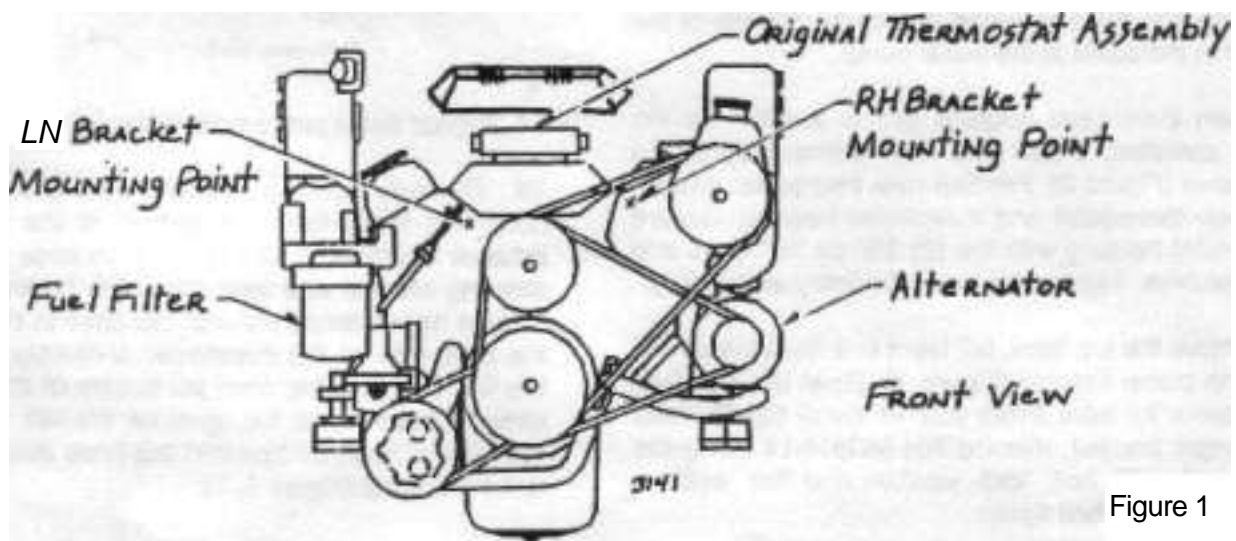

Figure 1
3. Locate original thermostat housing assembly at top, front, center of engine (Figure 1). Disconnect beige wire connected to the water temperature alarm sending unit on the left side and the beige/blue wire connected to the water temperature sending unit on the right side.
5. Remove thermostat housing assembly from engine by taking out the (2) 9/16" head bolts at back end of housing. Carefully remove plastic retainer and thermostat, water temperature alarm sender and water temperature sender from housing. Discard original thermostat, thermostat housing, lifting strap, bolts and plastic retainer.
9. Remove the top front, left hand bolt from the power steering pump bracket (Figure 1). Save this bolt and flat washer for later. From your kit install the RH heat exchanger bracket, marked RH MC314-11 using the 3/8" by 1 1/2" bolt, lock washer and flat washer. Tighten bracket bolt firmly.
10. Add a lock washer and flat washer to the 3/8" by 1 1/4" bolt removed from the steering pump bracket. Install LH heat exchanger bracket, marked LH MC314-12 using the empty hole located on the top, inboard side of left head (Figure 1). Tighten bracket bolt firmly.